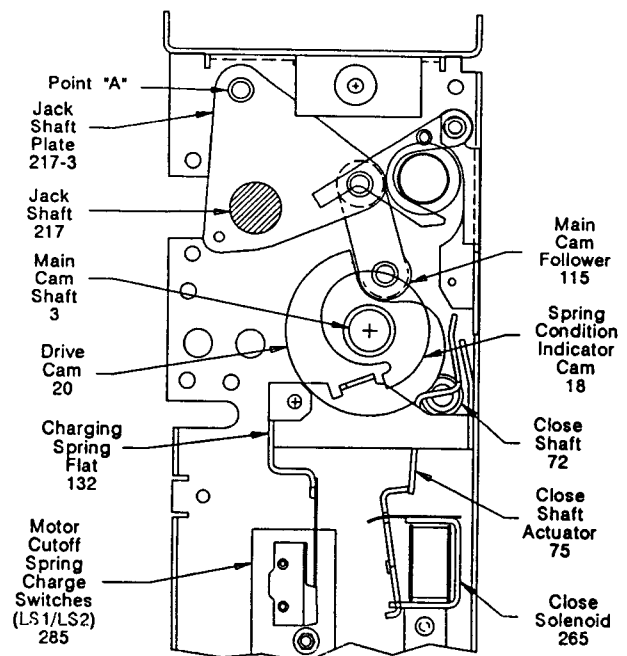

Figure 8. Closing Mode
At the beginning of the charging cycle, ratchet pin (16) is at the 12 o'clock position. The ratchet pin is connected to the ratchet wheel. Upon being advanced by ratchet action to the 6 o'clock position, this pin engages the drive arms (8) which are keyed to the main cam shaft. Consequently, counterclockwise rotation of the ratchet wheel causes the ratchet pin to drive the main cam shaft counterclockwise. When the ratchet pin reaches the 12 o'clock position, the closing springs are fully charged. Driving pawl (24-1) is disengaged, the spring condition indicator cam (18) has rotated allowing the spring charged flag (132) to drop into the lower (charged) position, which also operates the motor cutoff switch (LS1) and spring charged switch (LS2) (258) (see Figures 8 and 15). The closing springs are restrained fully charged by close hatchet (22) against close shaft (72).
Closing Mode (Figure 8)